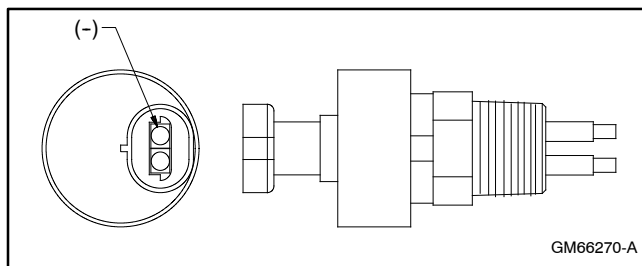

Figure 1 LCL Switch
- 2.3 Remove the LCL sensor from the generator set. See Figure 1.